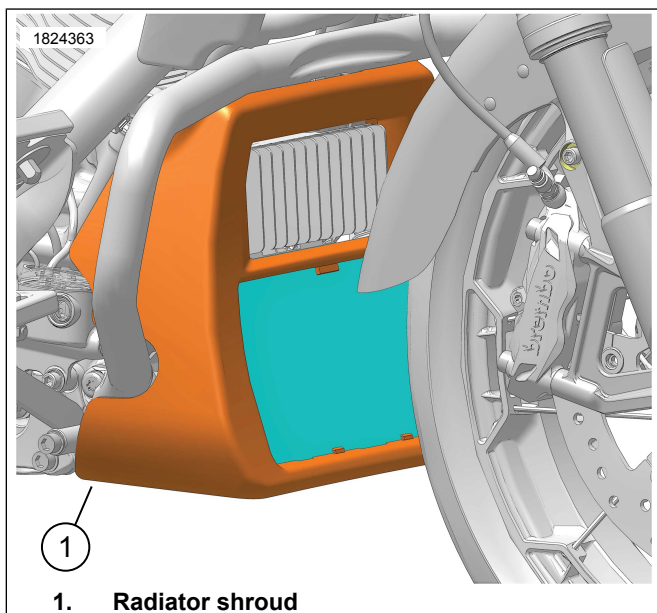

Figure 2. Radiator Shroud
1. See Figure 2. **Vehicles Equipped with Liquid-Cooled Center Position Radiator:** Remove radiator shroud.
- b. Pull radiator shroud (1) straight forward.
2. Remove Original Equipment (OE) engine guard. See service manual.
1. See Figure 2. **Vehicles Equipped with Liquid-Cooled Center Position Radiator:** Install radiator shroud (1).